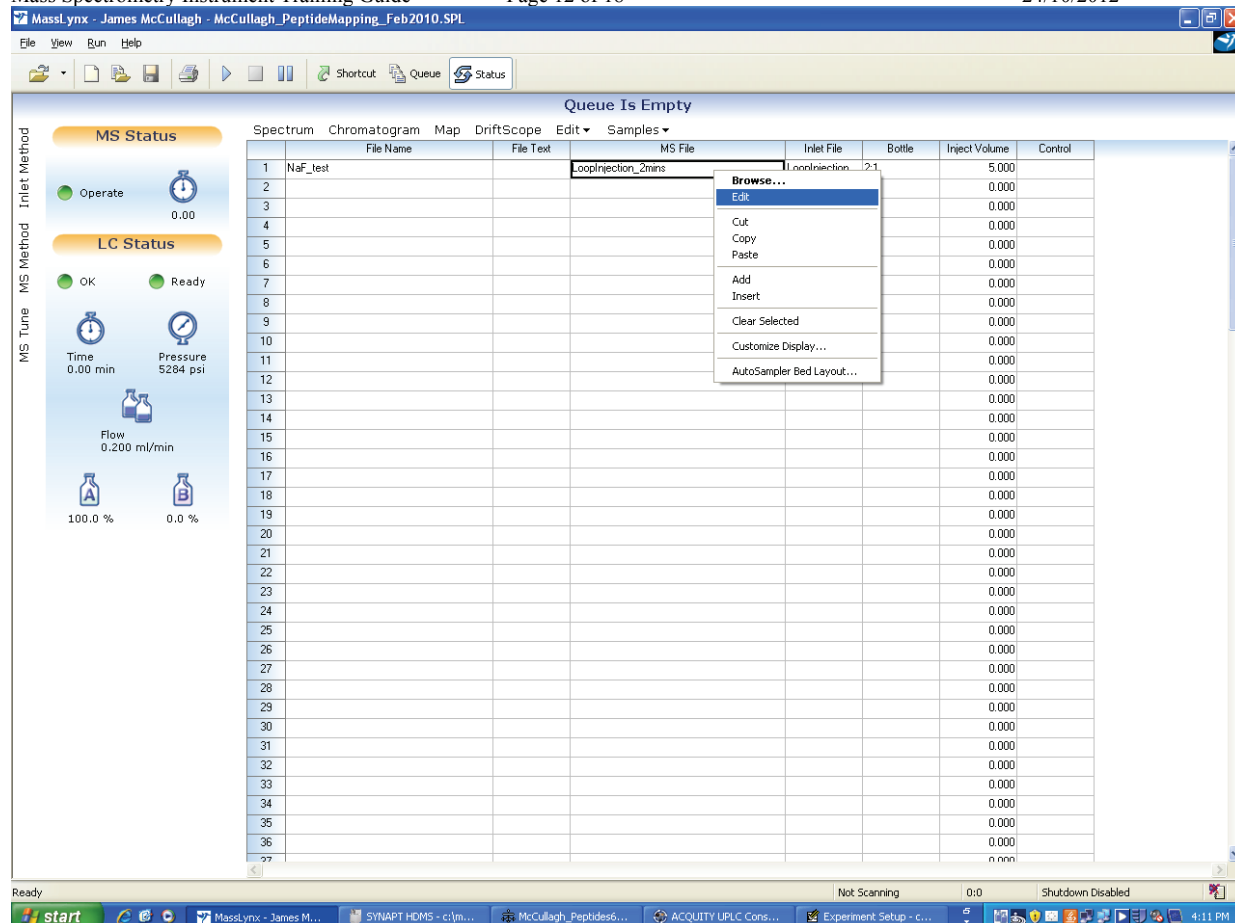

Figure 14: Editing MS method from sample list.
3.6 Editing MS method: Right click and select edit on the 'MS File' group (Figure 14). This will open the MS method which can then be modified (alternatively click on MS method in the 'Instrument' section of the Main Masslynx page). Set the mass range for data collection and length of time mass spec data should be collected for. Note this does not have to be the same length as the LC method run time.